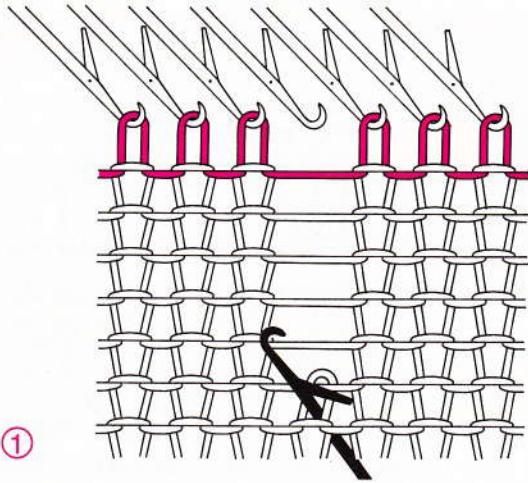

Fig. 218
- Push latch tool through the knitting so that the stitch slips behind the latch and the thread lying across is in the hook (fig. 218).